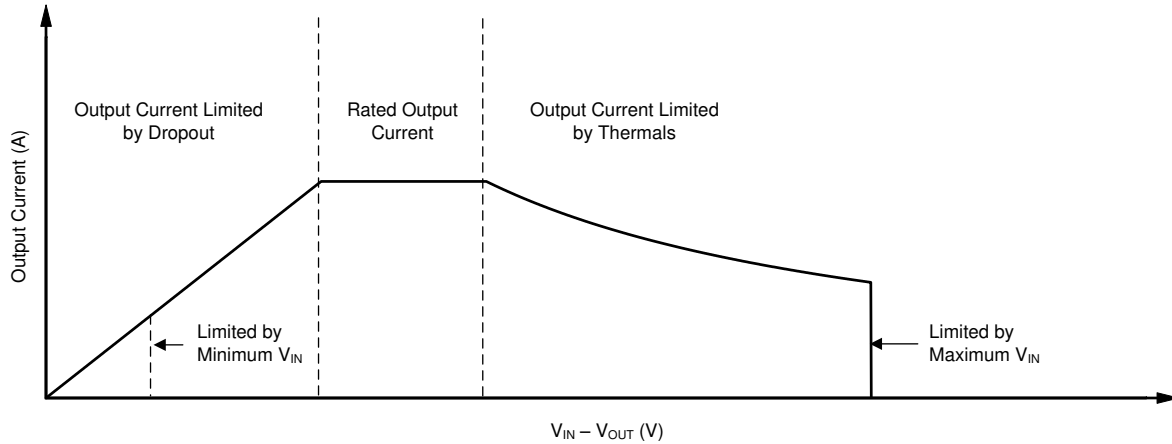

图 8-3. Continuous Operation Diagram With Description of Regions
The operational area of an LDO is limited by the dropout voltage, output current, junction temperature, and input voltage. The recommended area for continuous operation for a linear regulator is shown in Figure 8-3 and can be separated into the following regions:
- Figure 8-3 provides the shape of the slope. The slope is nonlinear because the maximum rated junction temperature of the LDO is controlled by the power dissipation across the LDO; thus, when  $V_{IN} - V_{OUT}$  increases the output current must decrease.